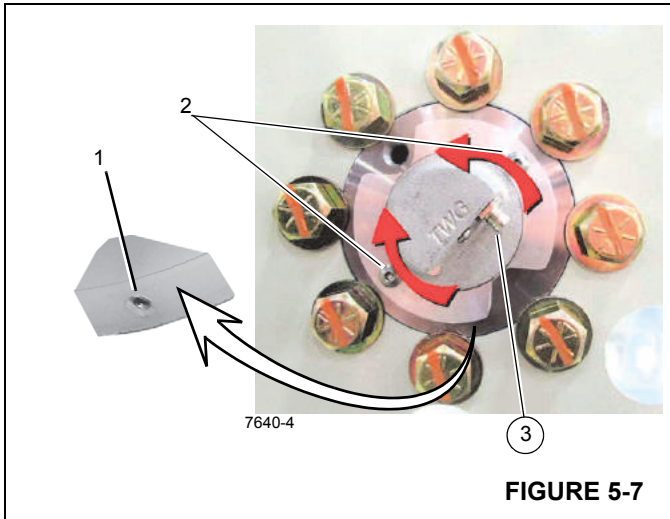

FIGURE 5-7
7. Loosen the set screw (1, Figure 5-7) on the side of the DRI flange.
8. Using the spanner wrench holes (2, Figure 5-7) rotate the DRI so that the connector (3) is pointed down.
9. Tighten the set screw (1, Figure 5-7) after the DRI is positioned as desired.